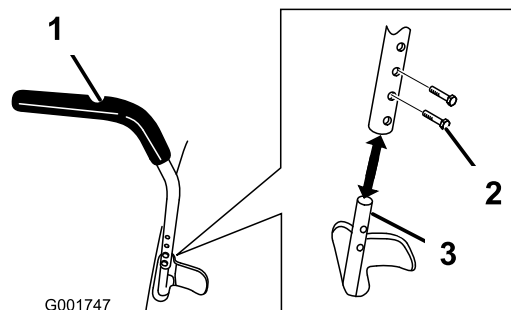

Figure 8
- Position the control lever to the desired height and align with the holes in the control lever shaft (Figure 8).
- Install 2 bolts (1/4 x 3/4 inch) into the control lever and shaft (Figure 8).